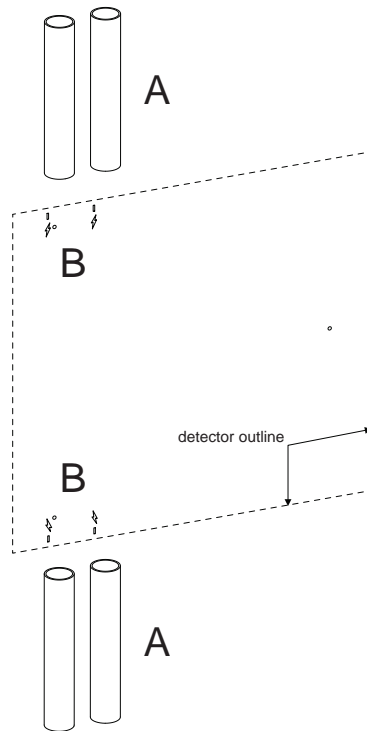

Figure 4-10: Position mounting template
1. Position the mounting template to allow electrical conduit (A) to line up with the alignment marks (B) (Figure 4-10):